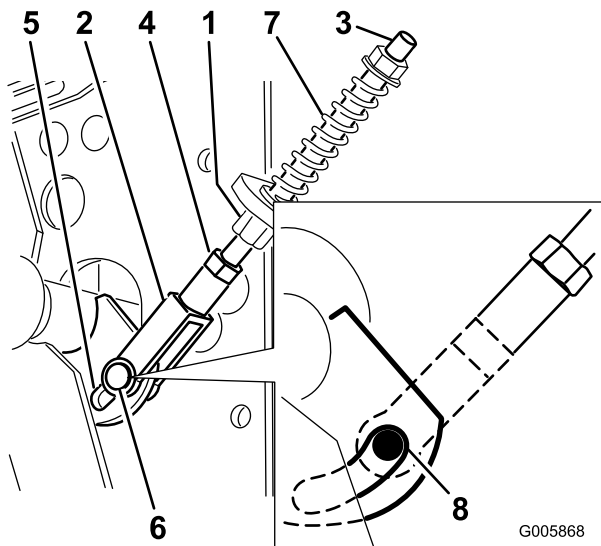

Figure 52
3. Adjust the left and right neutral stud until the clevis pin in the yoke touches the back end of the slot in the control arm (Figure 52).
6. If the wheel turns while holding the drive lever in neutral, the neutral stud needs to be adjusted (Figure 52). If wheel stops then go to .
7. Loosen the nut against the yoke (Figure 52).
8. Adjust the adjustment stud until the respective drive wheel stops while holding the drive in the neutral position (increased resistance) (Figure 52).
9. Turn the adjusting bolt approximately 1/4 turn clockwise if the wheel is turning in reverse or turn the bolt approximately 1/4 turn counter-clockwise if the wheel is turning forward (Figure 52).